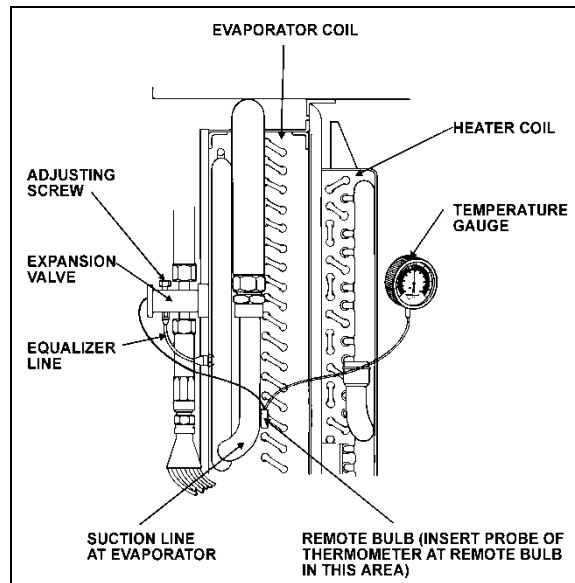

FIGURE 60: SUPERHEAT ADJUST. INSTALLATION 22046
3. Use a remote reading thermometer or thermocouple / multimeter to measure temperature at the evaporator outlet line near the existing remote bulb (Figure 60).